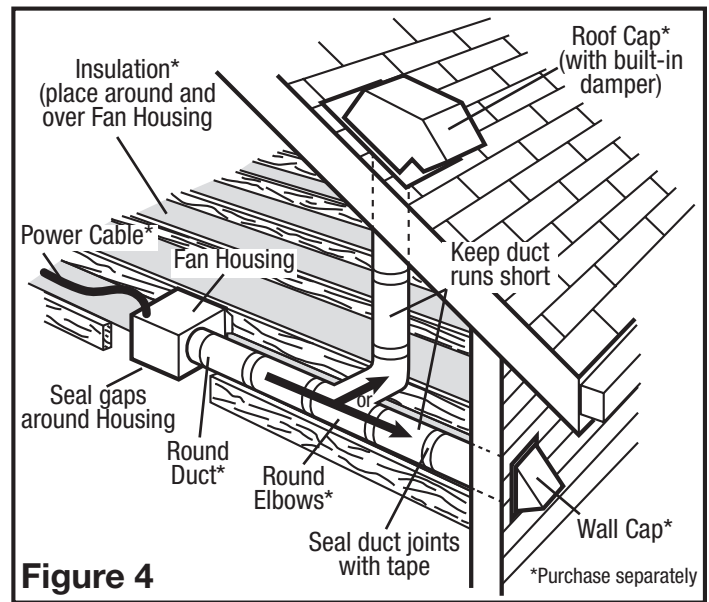

Figure 4
- Ensure duct joints and exterior penetrations are sealed with caulk or other similar material to create an air-tight path to minimize building heat loss or gain and to reduce the potential for condensation. Place/wrap insulation around duct and/or fan to in order to minimize possible condensation buildup within the duct, as well as building heat loss or gain (**Figure 4**).